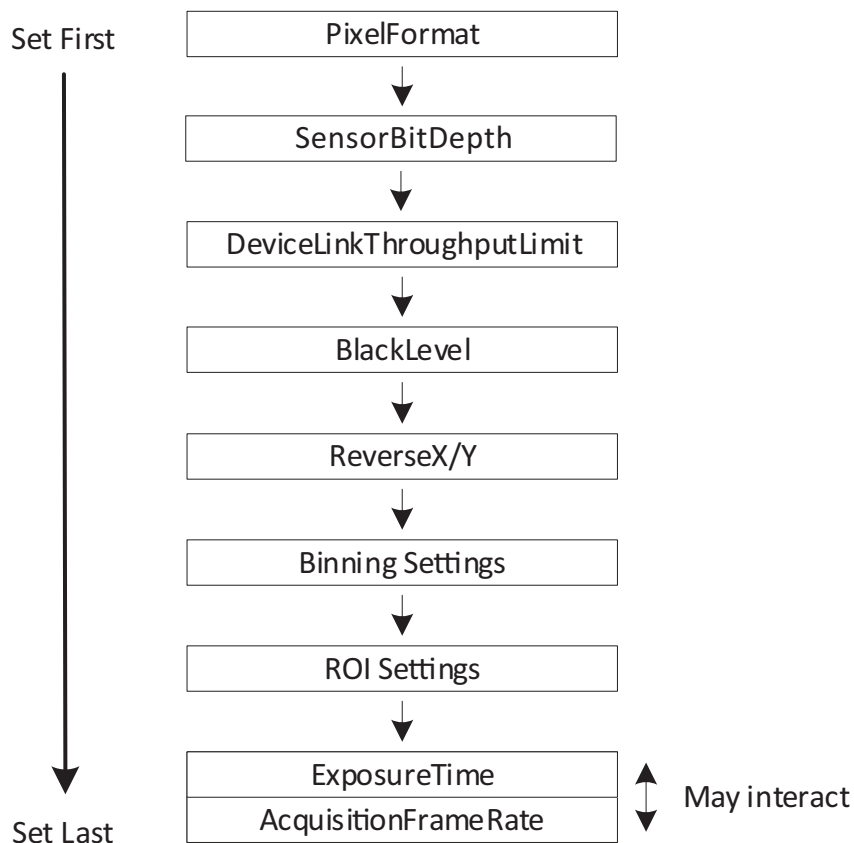

Figure 66: Interdependencies between features
The conversion between time and clock cycles affects control values. Features for pixel format, bandwidth, ROI, exposure time, and triggering are related to each other. Changing values for one feature can change values for another feature. For example, frame rates can be reduced when **PixelFormat** is changed subsequently. Figure 66 shows the interdependencies.
- To avoid readjustments, apply settings in the order shown in Figure 66.